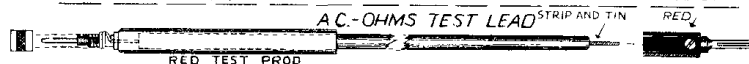

Fig. 14
- (*) AC-Ohms test lead. The AC-Ohms test lead is made by connecting the red banana plug (V40) on one end of the red test lead (V46), and the red test prod (V42) on the other. Figure 14 shows the construction.